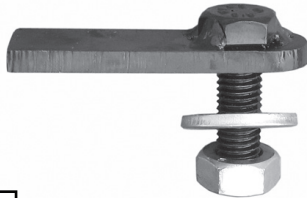

Fig 13
Select the Passenger/Right Mounting Bracket. Insert the Bracket through the bumper and up to the end of the frame. Line up the holes in the Bracket with the (3) mounting bolt holes for the tow hook. Select (1) 12mm Single Bolt Plate, (Fig 13). Insert the Bolt Plate into the end of the frame, through the hole in the side of the frame and out through the Bracket. Secure the Bracket to the Bolt Plate with (1) 12mm Flat Washer and (1) 12mm Nylon Lock Nut, (Figs 12 & 14). Do not tighten hardware.
(1) 12mm Single Bolt Plate